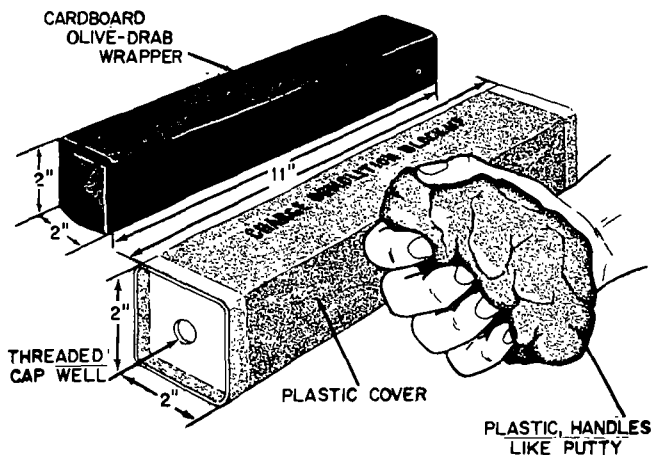

Figure 92. M5 demolition block.
- (3) *Detonation.* Tetrytol can be detonated by either electric or nonelectric caps. It may also be detonated by detonating cord or any of the firing devices using the J1 blasting cap. (See table I for detonation velocity.)
c. Composition C3 (M5 Demolition Block). Composition C3 (fig. 92) is a plastic explosive more powerful than TNT. At temperatures below minus 20° F., the explosive becomes hard and brittle; at temperatures above 120° F., it becomes extremely soft and exudes some of its oils.
- (1) *Packaging.* Composition C3 is packaged as a block in glazed paper and is inclosed in an olive drab cardboard container. Each block weighs 2¼ pounds and there are 8 blocks to a haversack. Two of these haversacks are packed in a wooden box.
- (2) *Uses.* Composition C3, because of its high velocity of detonation and plasticity, is ideally suited for cutting steel. Its plasticity permits close contact to irregularly shaped objects for demolition purposes. This explosive may be used as an underwater charge, if it is inclosed in a